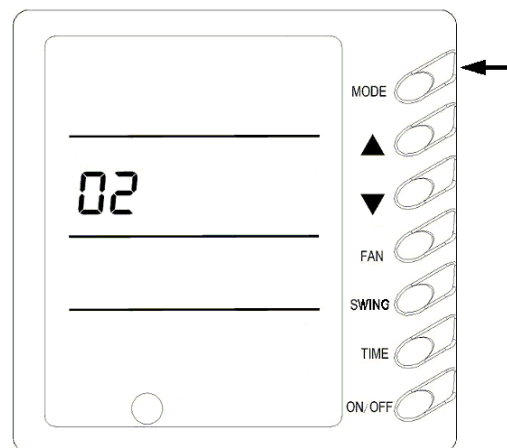

Fig.16
9) Power-off Memory Setting (Fig.16)